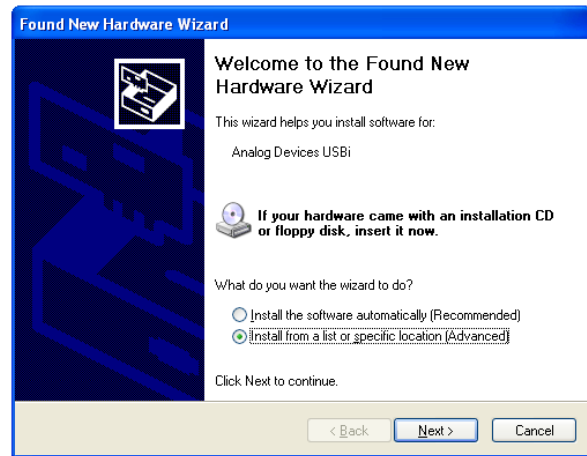

Figure 4. Found New Hardware Wizard: Installation
1. From the Found New Hardware Wizard window, select the **Install from a list or specific location (Advanced)** option and click **Next** (see Figure 4).